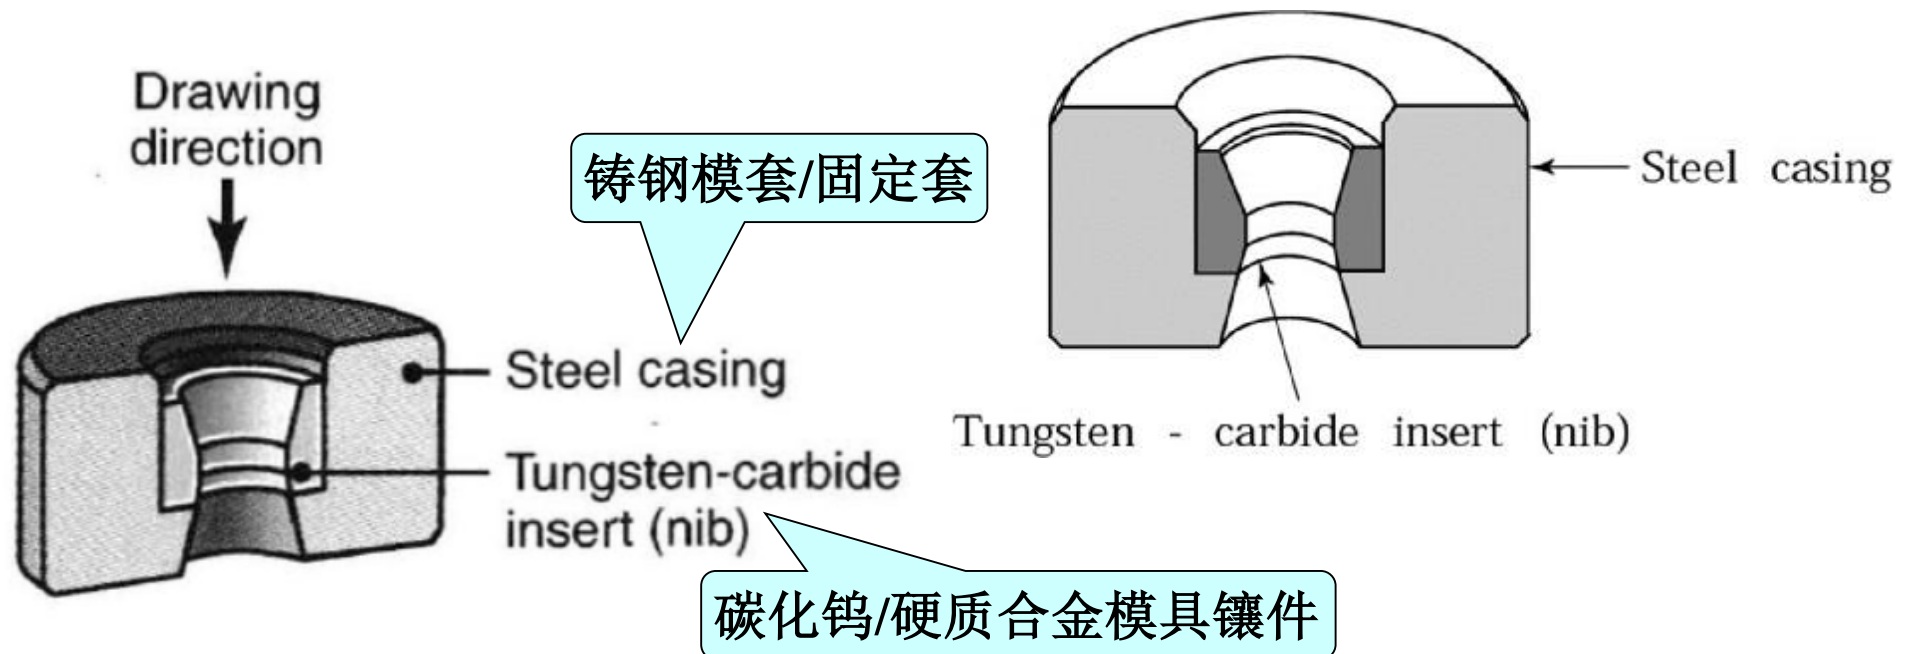

FIGURE 6.22 Tungsten-carbide die insert in a steel casing. Diamond dies used in drawing thin wire are encased in a similar manner.
- **Because of their very low tensile strength and toughness, carbide and diamond dies are use as insert (镶件) or nibs (模芯), which are supported in a steel casing (模套) (Fig.6.22).**